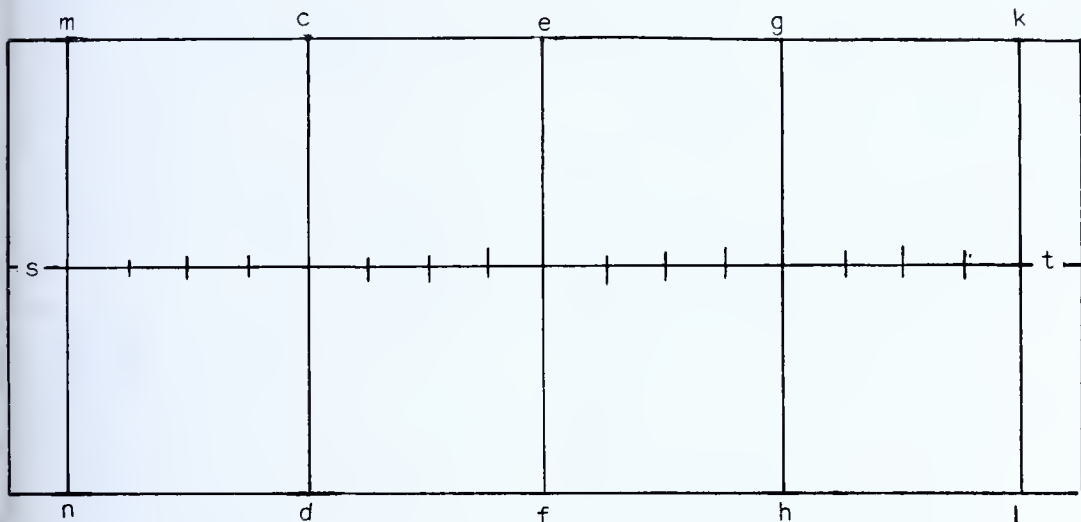

FIG. 312 — *Beginning of a Template Layout*
7. Obtain a piece of template paper 84" long and 26" to 28" wide. Fig. 312.
Note that the lines which are numbered the same are stepped off the same distances. All of the distances are stepped off equally first above and then below the center line *s-t*. The main divisions on Figs. 312 and 313 represent one fourth of the circumference of the elbow measured on the neutral diameter. When the lines *m-n* and *k-l* are brought together after the job is rolled, they represent the seam which is to be welded in the circle.